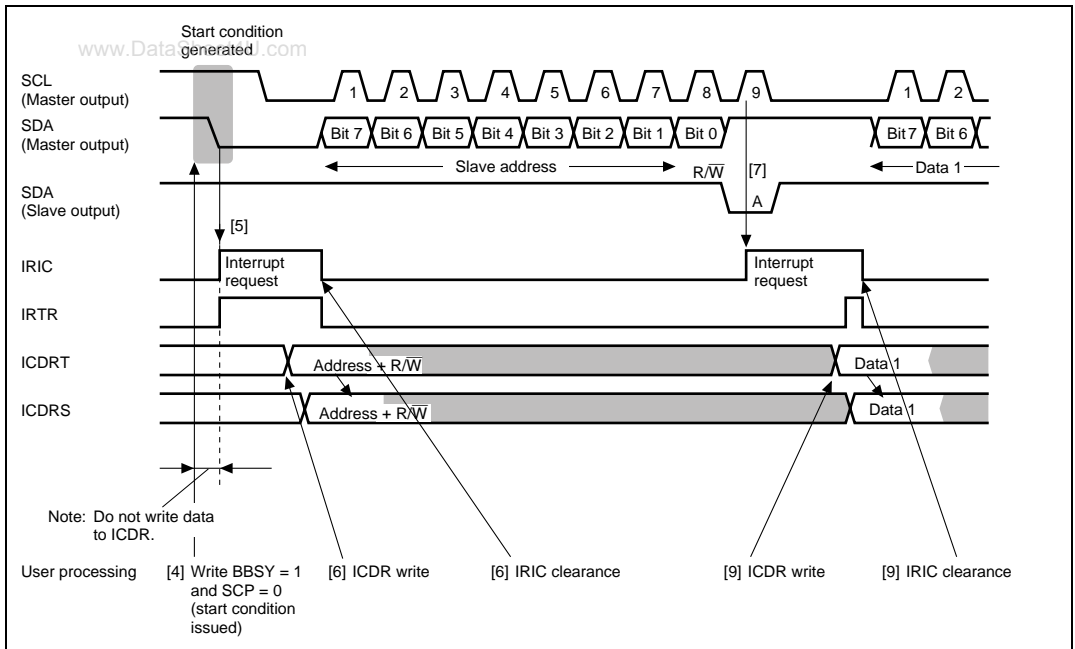

Figure 14.8 Example of Master Transmit Mode Operation Timing (MLS = WAIT = 0)
6. After the start condition is detected, write the data (slave address + R/W) to ICDR. With the I²C bus format (when the FS bit in SAR or the FSX bit in SARX is 0), the first frame data following the start condition indicates the 7-bit slave address and transmit/receive direction (R/ \bar{W}). As indicating the end of the transfer, and so the IRIC flag is cleared to 0. After writing ICDR, clear IRIC continuously not to execute other interrupt handling routine. If one frame of data has been transmitted before the IRIC clearing, it can not be determine the end of transmission. The master device sequentially sends the transmission clock and the data written to ICDR using the timing shown in figure 14.8. The selected slave device (i.e. the slave device with the matching slave address) drives SDA low at the 9th transmit clock pulse and returns an acknowledge signal.